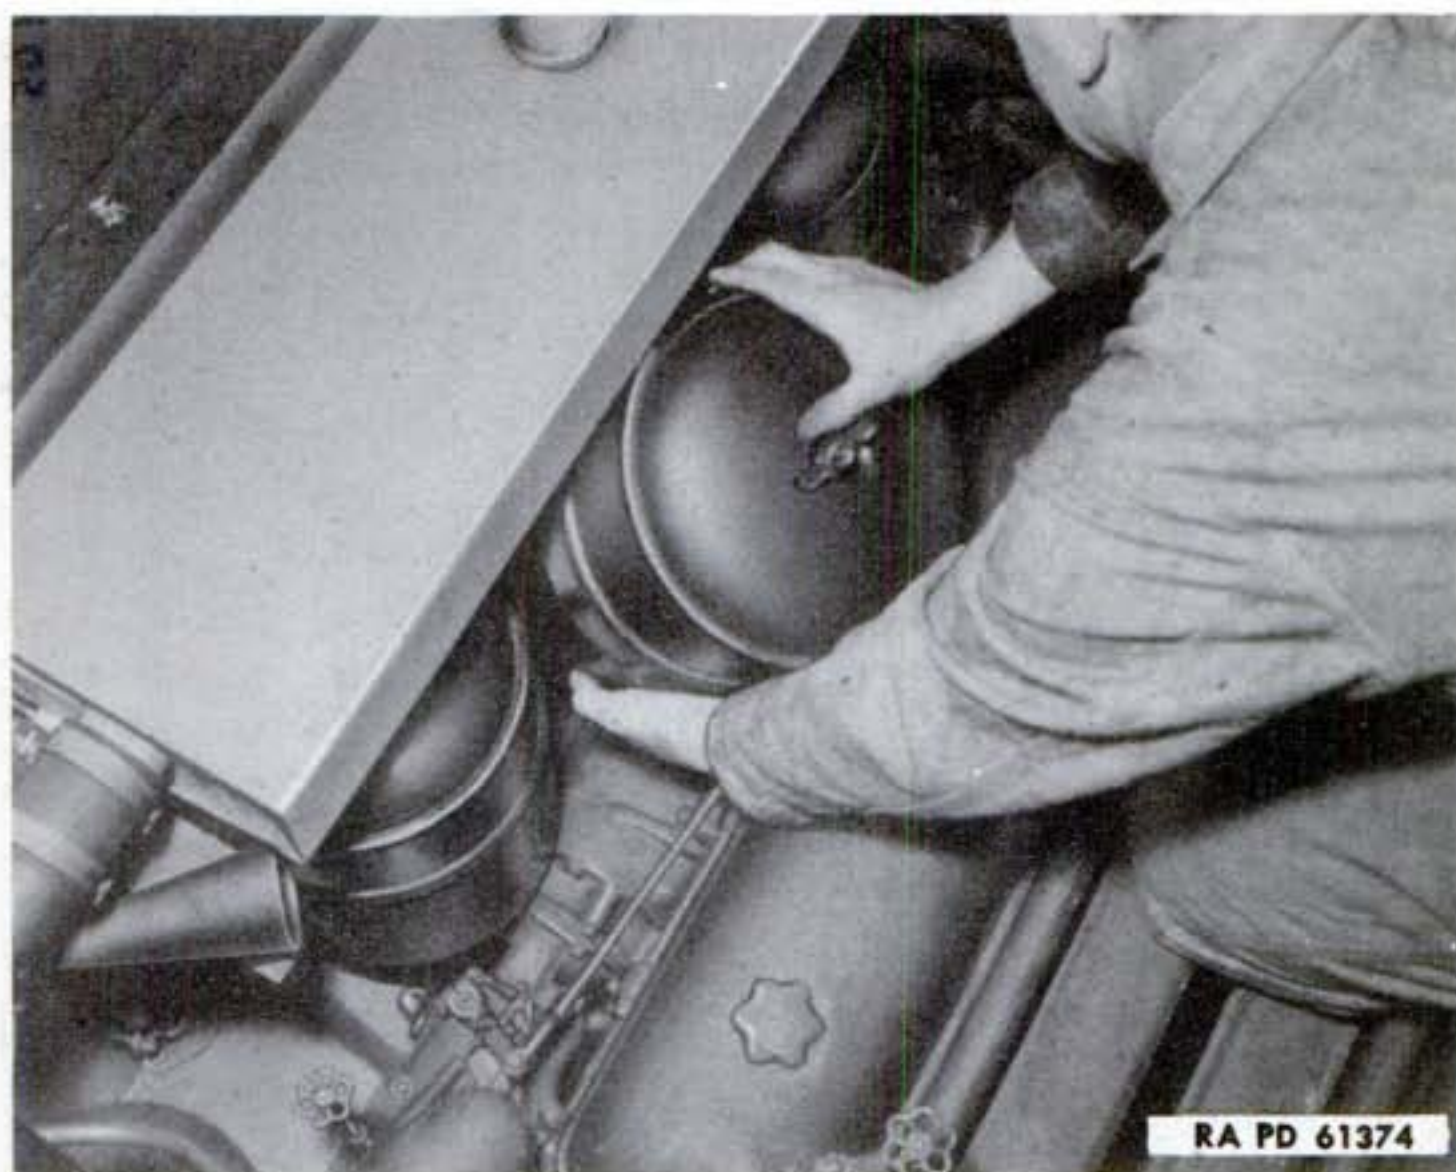

Figure 62—Removing Air Cleaners
b. Removal of Air Cleaners. Open engine compartment doors (par. 167 a). Raise and lock engine splash panel (par. 168 b). Thoroughly wipe off outside of air cleaners, particularly the bottom, to prevent dirt dropping into air inlet housing when air cleaners are removed. Beginning with center air cleaner on each side, unscrew wing bolt at top and lift off air cleaners (fig. 62). Immediately cover air intake housing ports with clean board, plugs or tape. Do not use rags or paper.
(2) **CLEAN AIR BOX DRAIN TUBES** (fig. 62). Remove drain tubes from elbow and remove elbow from block. Use wire and compressed air if necessary to remove obstruction from drain tube and elbow. Install elbows and drain tubes in block and start engine to test for flow of air from both air box drains. If drains are still clogged, air box must be cleaned. Report to higher authority.